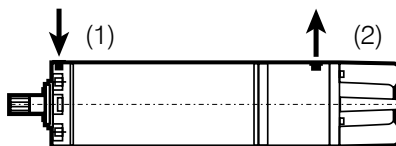

Fig. 1A
1- Position the motor horizontally. Remove the screw (1) of filling hole and the screw (2) of the emptying hole. Pour the clean water into the motor making sure that there will be no air left inside. Replace the screw (2) of emptying hole. (Fig. 1A)